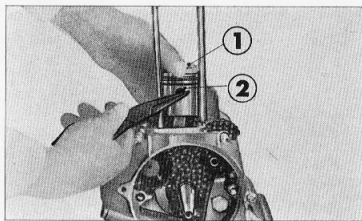

Figure 26. ① Piston ② Piston pin clip
1. The piston is disassembled from the connecting rod by first removing the piston pin clip and then the piston pin. (Fig. 26)